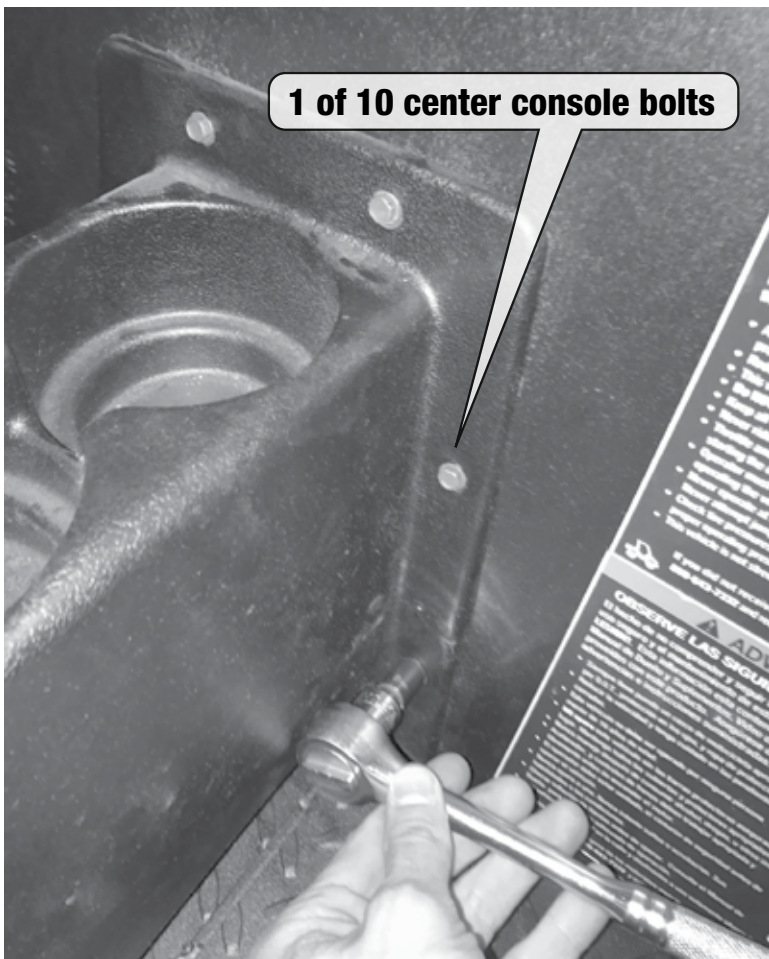

fig. 3
- 4 Using the 5/16" socket, remove the ten bolts securing the center console as shown in **figure 3**. Lift and slide the console off to the right out of the way.